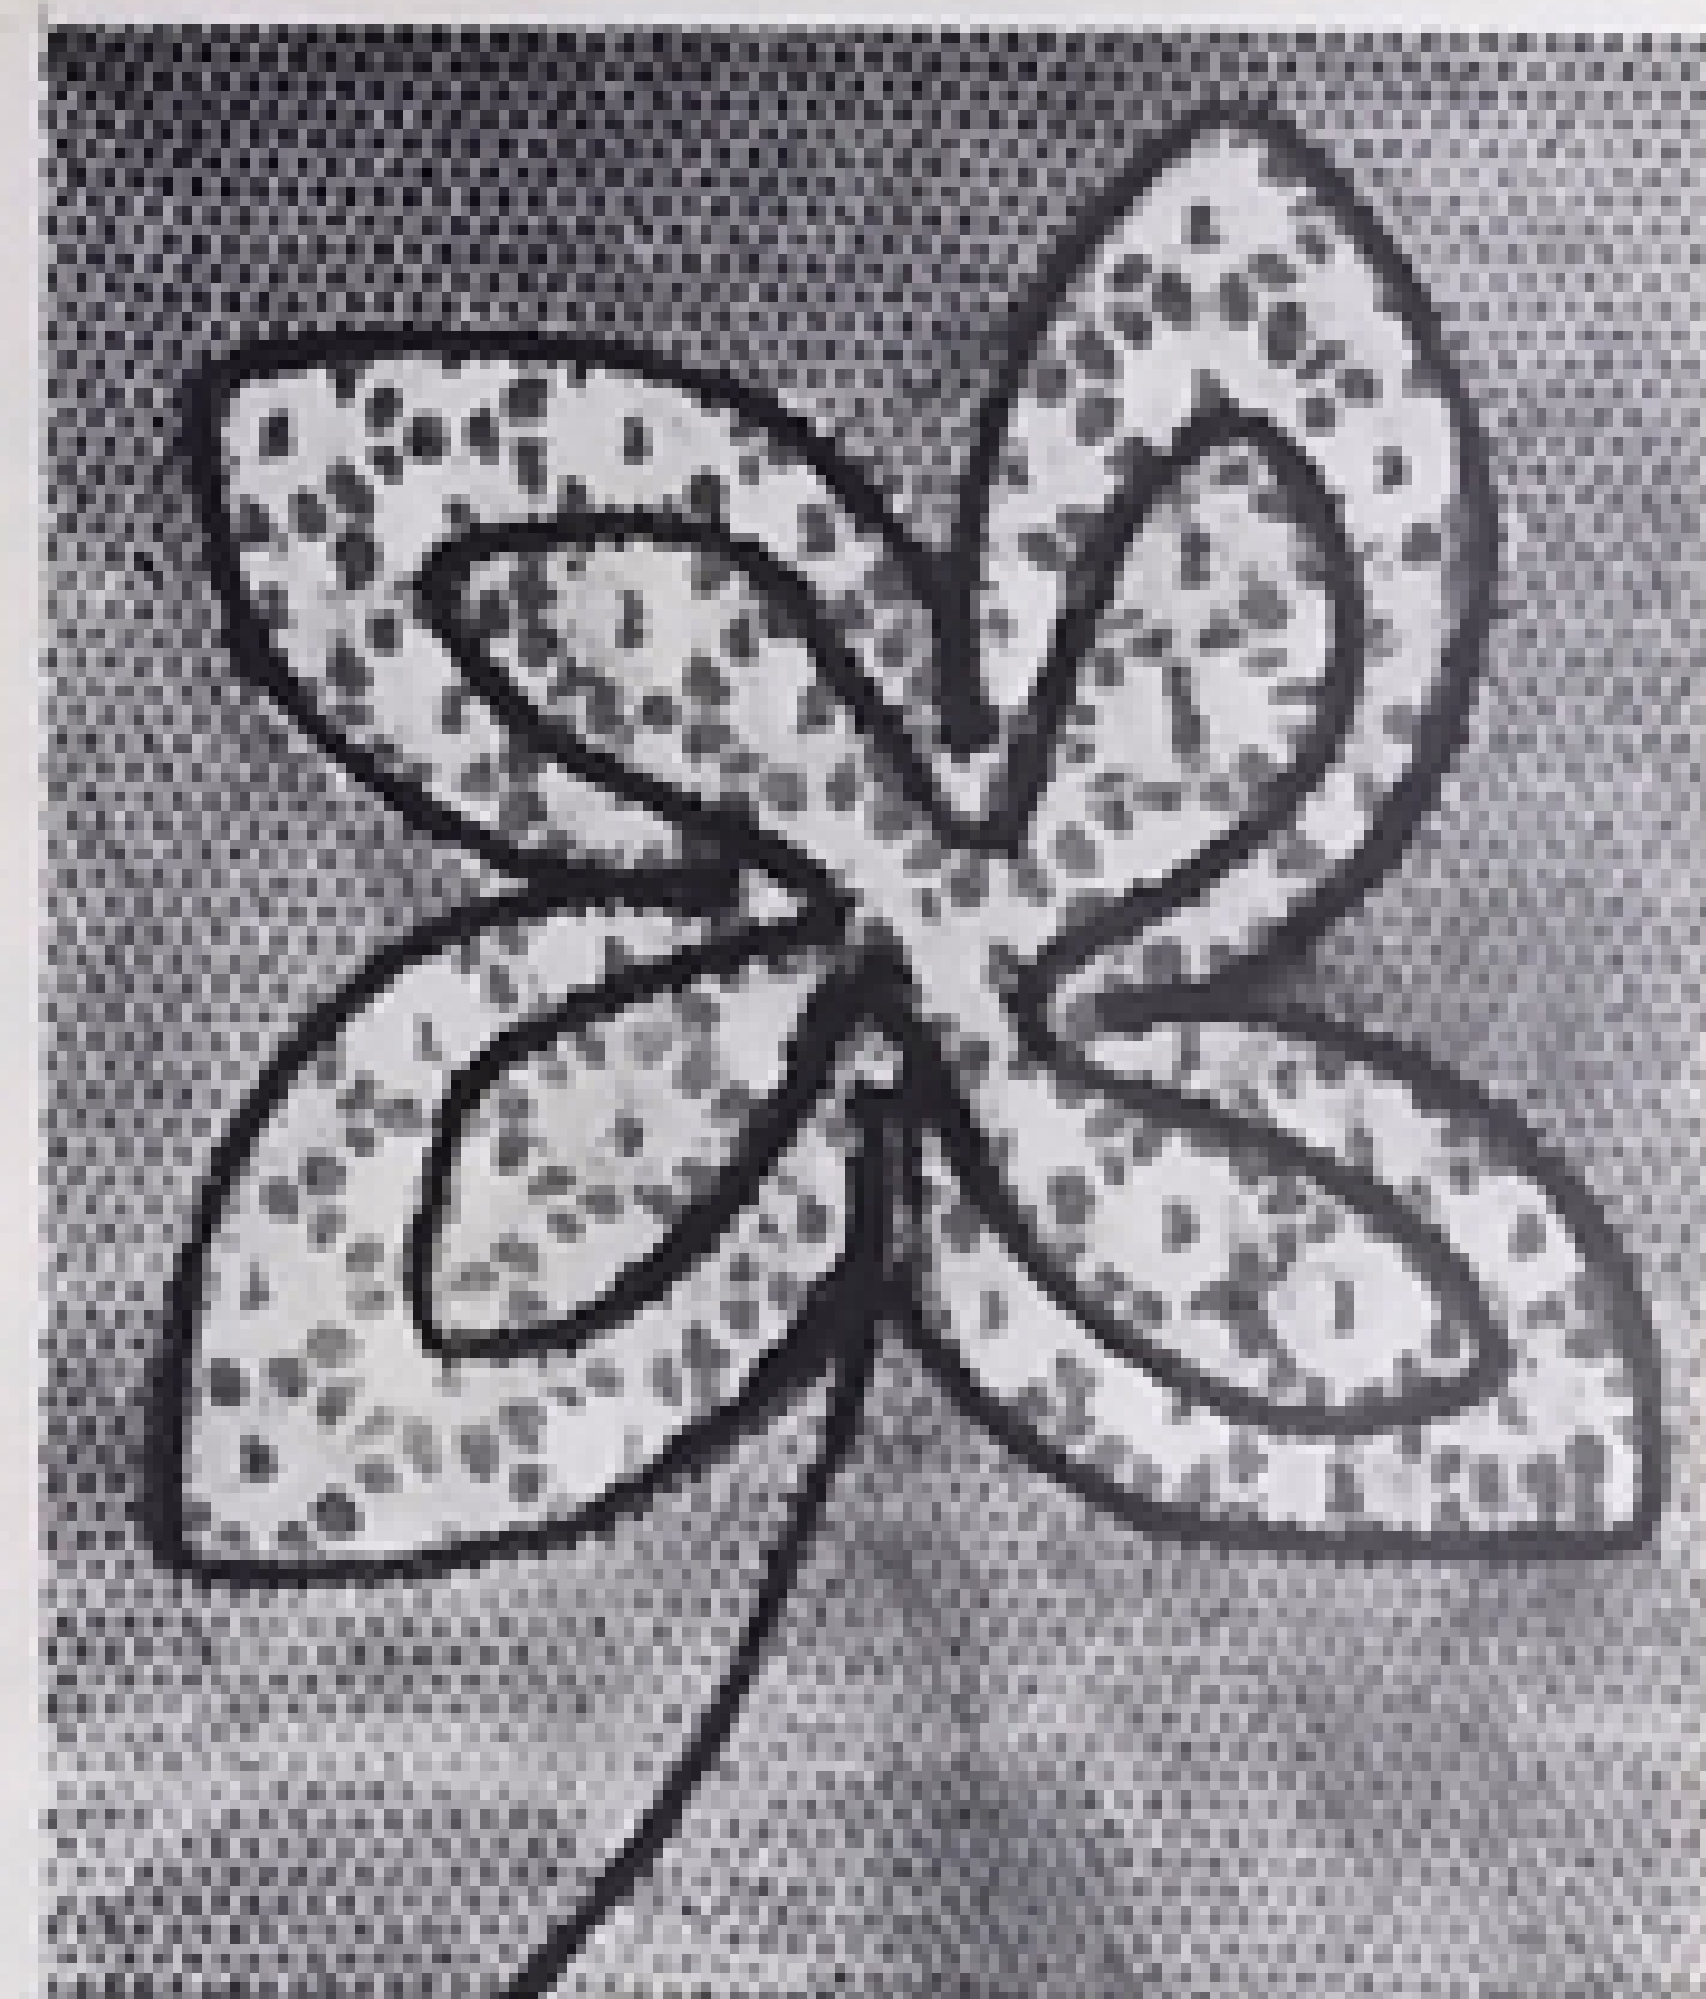

Fig. 29
7. Start to sew slowly and follow the design carefully. See Fig. 29.